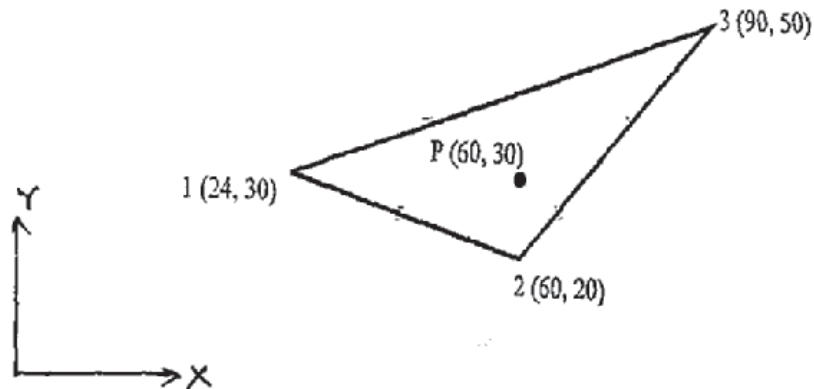

Fig. 2a
- Q2) a)** The stresses at node points 1, 2 and 3 are 90, 120 and 160 MPa respectively. Determine the stress at point P for the coordinates as shown in fig. 2a. [15]